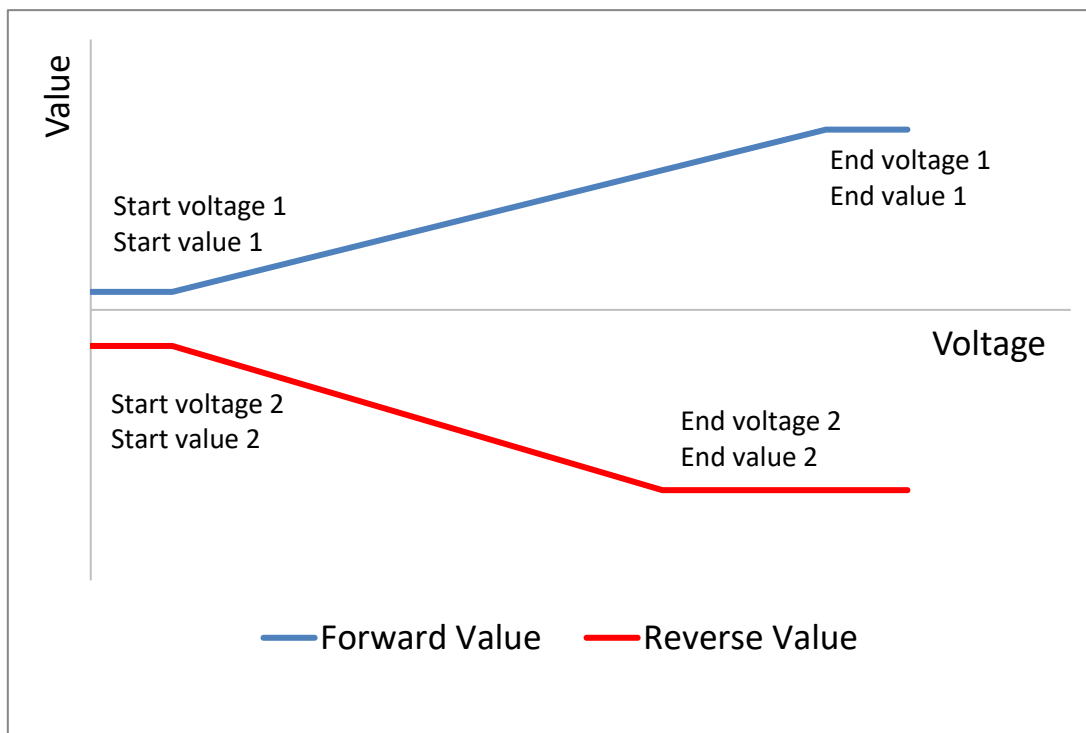
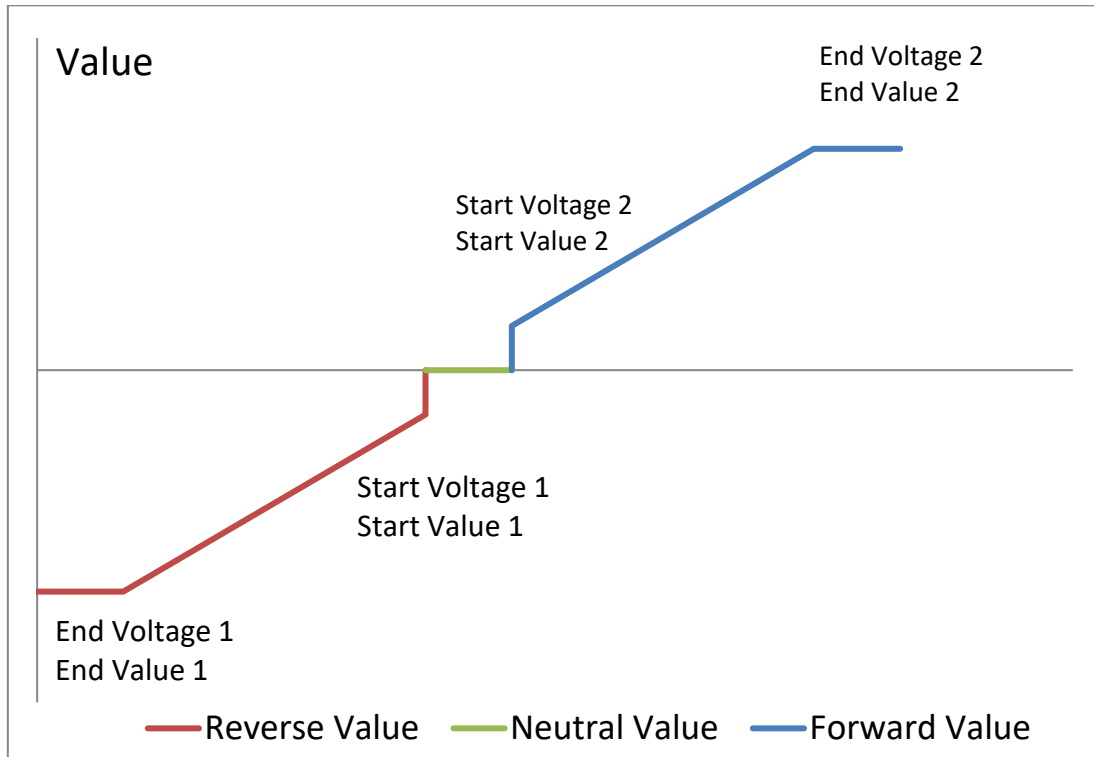

Figure 31 – Standard throttle configuration
Figure 32 – Directional throttle configuration
- Define the throttle voltage input: this is the relationship between the throttle voltage and the throttle value. Separate relationships can be specified for forward and reverse. Each relationship has two points, a start and an end. The points are configured differently for standard and directional throttles as shown in Figure 31 and Figure 32 respectively.